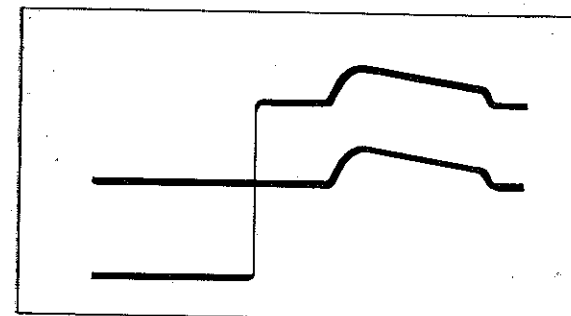

Figure 4-2. Signal Pattern with
a. Set IGNITION-PICKUP switch to IGNITION; check to see that pattern on screen agrees with Figures 4-2 and 4-3.